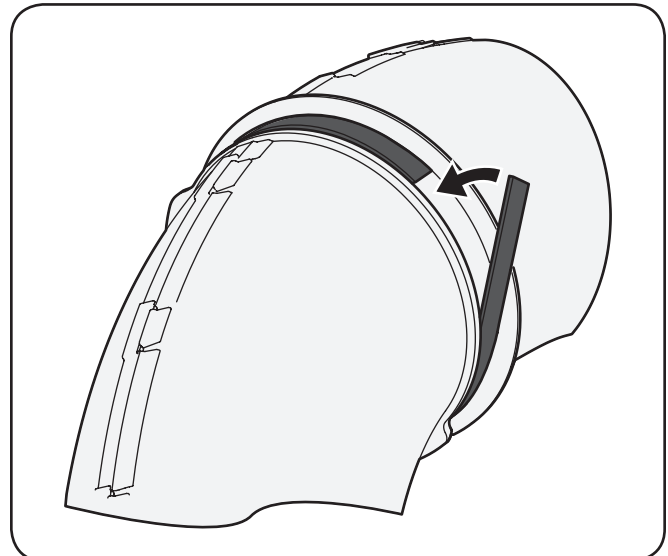

Figure 4-15
1. Peel the backing off of the self-adhesive foam strip that has been included with your grass collector. Apply it to the upper chute, flush against the flange as shown in Figure 4-15.